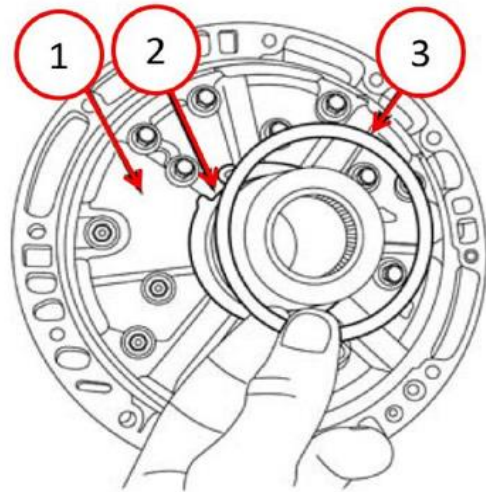

Figure 8 – Oil Pump Assembly
38. Lubricate with trans jel or petroleum jelly and install the nylon thrust washer onto the oil pump (Fig. 8).
**NOTE:** The nylon thrust washer is keyed to the oil pump (Fig. 8).
**NOTE:** Two pin punches inserted through the oil pump mounting holes will aid in the installation of the oil pump (Fig. 8).